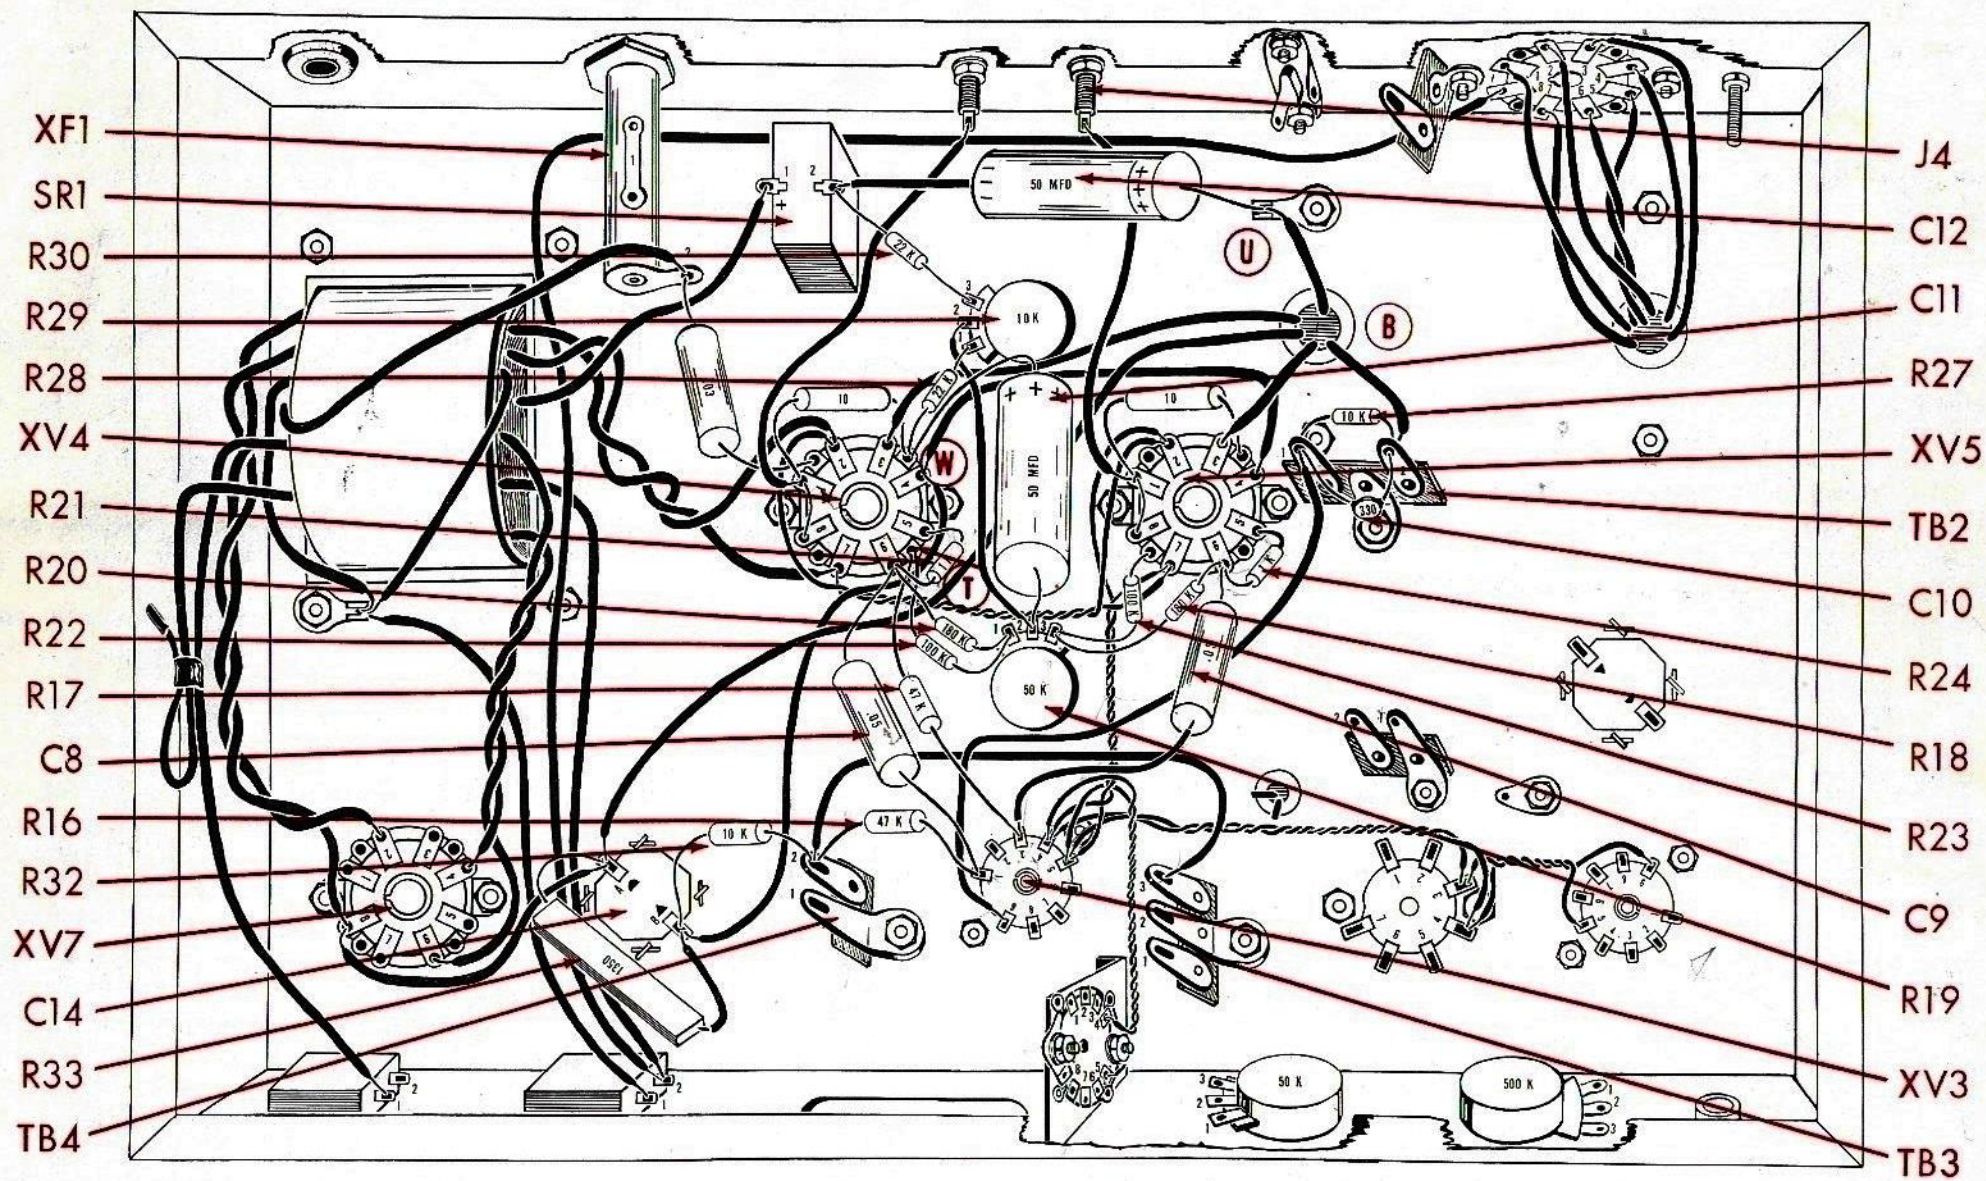

Fig. 4
1. ~~(X)~~ Fig. 4. Connect a 4 1/2" piece of red wire from XV4-4 (C) to XV5-4 (S1).
2. ~~(X)~~ Fig. 4. Connect a 6" piece of red wire from XV4-4 (S2) to C14-B (C).
3. ~~(X)~~ Fig. 4. From hole "B", connect the black lead to ground lug "U" (C), the green lead to TB2-2 (C), the blue lead to XV5-3 (S1), the brown lead to XV4-3 (S1) and the red lead to C14-A (C).
4. ~~(X)~~ Fig. 4. Connect a 4" piece of black wire from J4 (S1) to XV5-1 (C).
5. ~~(X)~~ Fig. 4. On a 50 mfd, 150V electrolytic capacitor, C12, cut both leads to 1 1/2". Cover the negative (-) lead with a 1 1/4" piece of spaghetti and connect to SR1-2 (C). Connect the positive (+) lead to ground lug "U" (S2).
6. ~~(X)~~ Fig. 4. Connect a 3 1/2" piece of yellow wire from R29-2 (S) to R19-2 (C).
7. ~~(X)~~ Fig. 4. On two 22K (red, red, orange, silver) resistors, R28 and R30, cut all leads to 1/2". Connect R28 from R29-1 (S1) to ground lug "W" (C). Connect R30 from R29-3 (S1) to SR1-2 (S2).
8. ~~(X)~~ Fig. 4. On a 50 mfd, 150V electrolytic capacitor, C11, cut the positive (+) lead to 1 1/2". Cover this lead with a 1 1/4" piece of spaghetti and connect to ground lug "W" (S3). Cut the negative (-) lead to 3/4" and connect to R19-2 (S2).
9. ~~(X)~~ Fig. 4. Cut all leads on two 100K (brown, black, yellow, silver) resistors, R22 and R23, to 1/2". Connect R22 from R19-1 (C) to ground lug "T" (C) on XV4. Connect R23 from R19-3 (C) to ground lug "S" (S1) on XV5.
10. ~~(X)~~ Fig. 4. Connect a 4" piece of red wire from TB3-3 (C) to TB4-2 (C).
11. ~~(X)~~ Fig. 4. Connect a 7" piece of brown wire from TB2-1 (C) to XV3-9 (C).
12. ~~(X)~~ Fig. 4. Cut both leads on a 47K (yellow, violet, orange, silver) 1 watt resistor, R17, to 1". Cover one lead with a 3/4" piece of spaghetti and connect to XV3-3 (C). Connect the other lead to ground lug "T" (S2).
13. ~~(X)~~ Fig. 4. Cut all leads on two 180K (brown, grey, yellow, gold) resistors, R18 and R20, to 3/4". Connect R18 from XV5-6 (C) to R19-3 (S2). Connect R20 from R19-1 (S2) to XV4-6 (C).
14. ~~(X)~~ Fig. 4. Cut all leads on two 1K (brown, black, red, silver) resistors, R21 and R24, to 1/2". Connect R21 from XV4-6 (C) to XV4-5 (S1). Connect R24 from XV5-6 (C) to XV5-5 (S1).
15. ~~(X)~~ Fig. 4. Connect a 1/2" piece of bare wire from XV4-1 (S3) to XV4-8 (S1).
16. ~~(X)~~ Fig. 4. Connect a 1/2" piece of bare wire from XV5-1 (S3) to XV5-8 (S1).
17. ~~(X)~~ Fig. 4. Cut both leads on a 10K  $\pm$  5% (brown, black, orange, gold) resistor, R27, to 1/2". Connect from TB2-1 (C) to TB2-2 (C).
18. ~~(X)~~ Fig. 4. Cut both leads on a 330 mmf disc capacitor, C10, to 3/4". Connect from TB2-1 (S3) to TB2-2 (S3).
19. ~~(X)~~ Fig. 4. Cut one lead on each of two .05mfd (green, black, orange, white, yellow) capacitors, C8 and C9, to 1 1/2", and cover each lead with a 1 1/4" piece of spaghetti. Cut the remaining lead on each of these capacitors to 3/4". Connect the shorter lead on C8 to XV4-6 (S3) and the longer lead to XV3-1 (C). Connect the shorter lead on C9 to XV5-6 (S3) and the longer lead to XV3-3 (S2).
20. ~~(X)~~ Fig. 4. Connect a 5" piece of red wire from XV7-8 (S2) to C14-A (C).
21. ~~(X)~~ Fig. 4. Cut both leads on a 1350 $\Omega$  wire wound resistors, R33, to 1 1/4". Cover both leads with a 1" piece of spaghetti. Connect from C14-A (S3) to C14-B (C).
22. ~~(X)~~ Fig. 4. Cut both leads on a 10K (brown, black, orange, silver) 1 watt resistor, R32, to 3/4". Connect from C14-B (S3) to TB4-2 (C).
23. ~~(X)~~ Fig. 4. Cut both leads on a 47K (yellow, violet, orange, silver) 1 watt resistor, R16, to 3/4". Connect from TB4-2 (S3) to XV3-1 (S2).